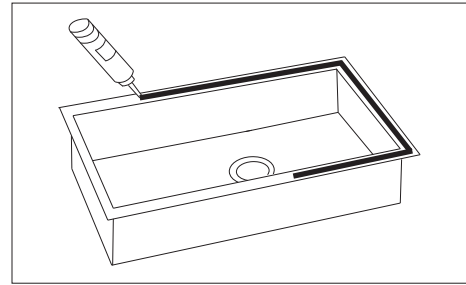

Figure 5
7. Clean sink flange and underside of cutout area of countertop, making sure that the area is smooth and free from grease. Apply continuous bead of silicone caulk evenly on top of sink flange. (Figure 5)